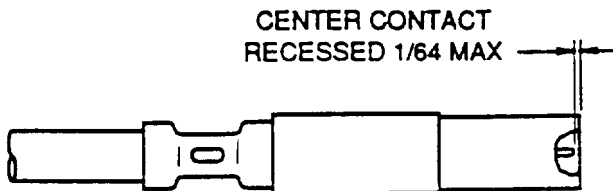

Figure 41. Recess Inspection
j. As shown in Figure 41, inspect completed assembly to ensure that center contact is not recessed more than 1/64-inch.
f. Inspect completed assembly, to ensure that center contact is not recessed more than 1/64-inch (Figure 41).
h. Inspect completed assembly to ensure that center contact is not recessed more than 1/64-inch (Figure 41).